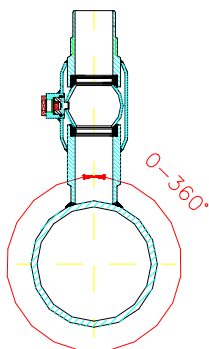
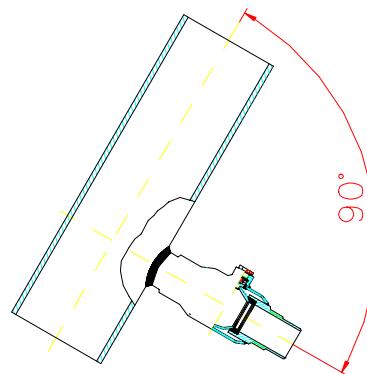

Figure 2
Figure 3
- The valve may be welded to the main pipe at any angle between 0° and 360° (see figure 2), but it must be at a 90° angle to the longitudinal axis of the main pipe (see figure 3).